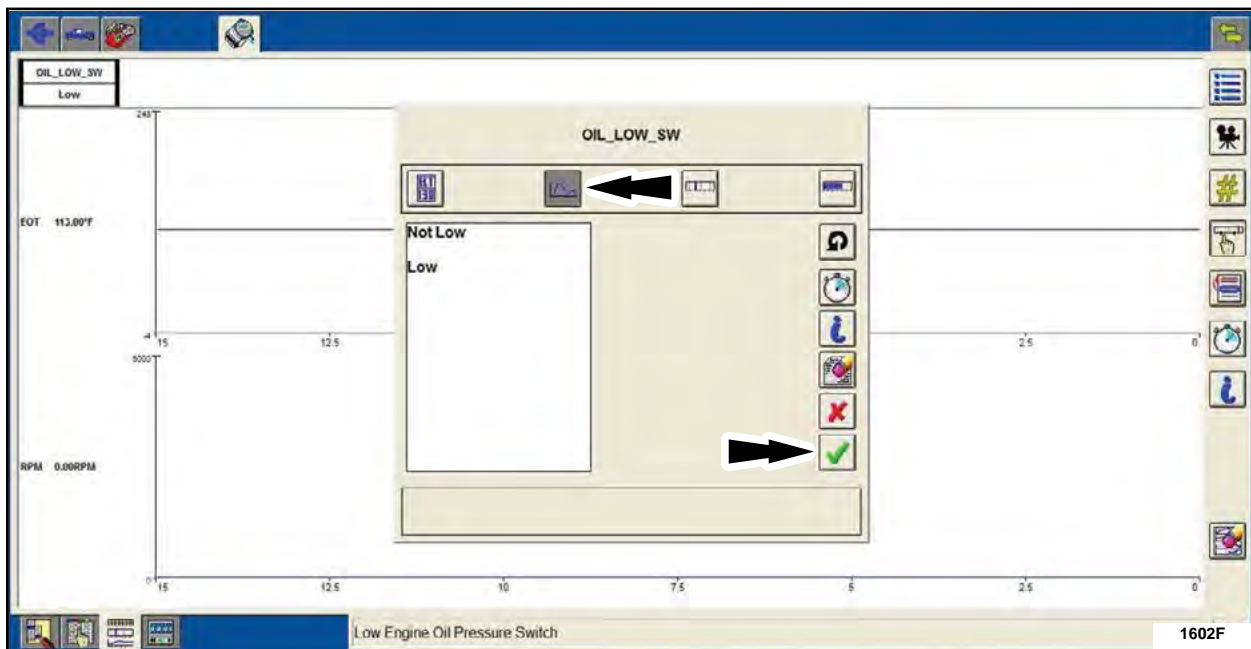

FIGURE 6
8. In the OIL_LOW_SW PID dialog box, select the graph button and then click the check mark. See Figure 6.